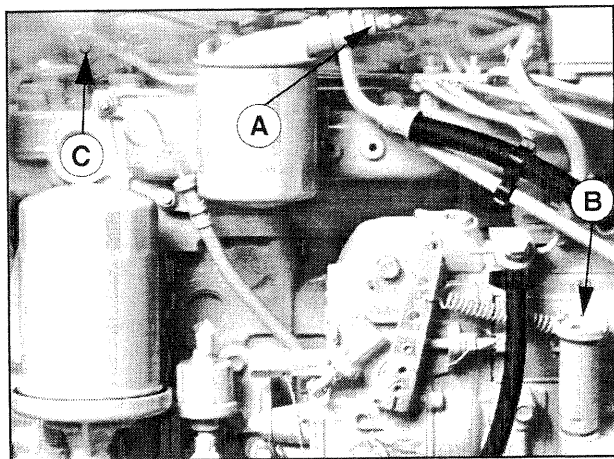

Figure 11: Fuel System
2. Loosen bleed nipple (Figure 11-A) on top of the fuel filter. Pump hand primer (Figure 11-B) on fuel lift pump until pure fuel (no bubbles) escapes from the bleed nipple (Figure 11-A). Tighten bleed nipple.
3. If the engine does not start after this bleeding process, loosen a fuel line at the injector (Figure 11-C) while cranking the engine with the starter motor until pure fuel escapes. Then tighten the connection. Do each line **one-at-a-time**.